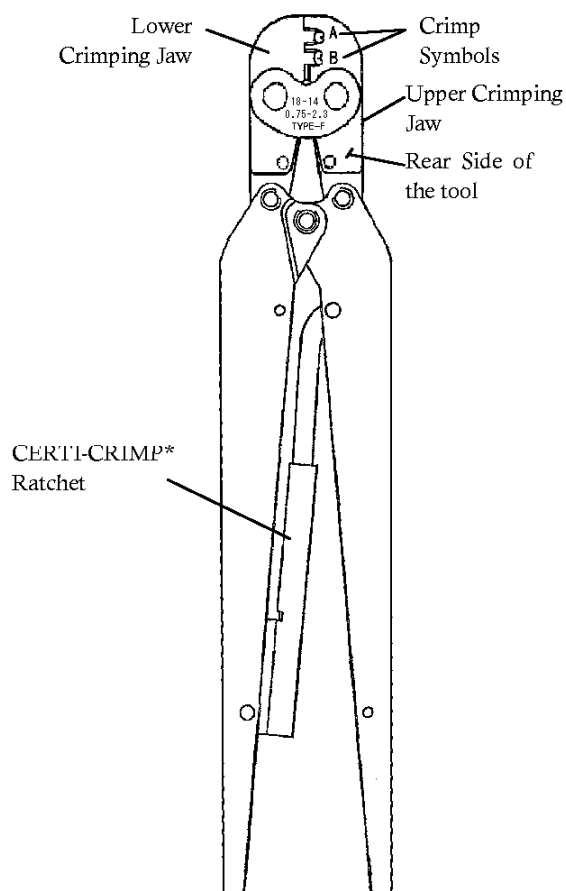

Fig.1
- The tool (see Fig.1) covered by this Instruction Sheet, crimps the applicable terminals listed in the table (Fig.2) below. These terminals can accept the stranded wires of the listed range.